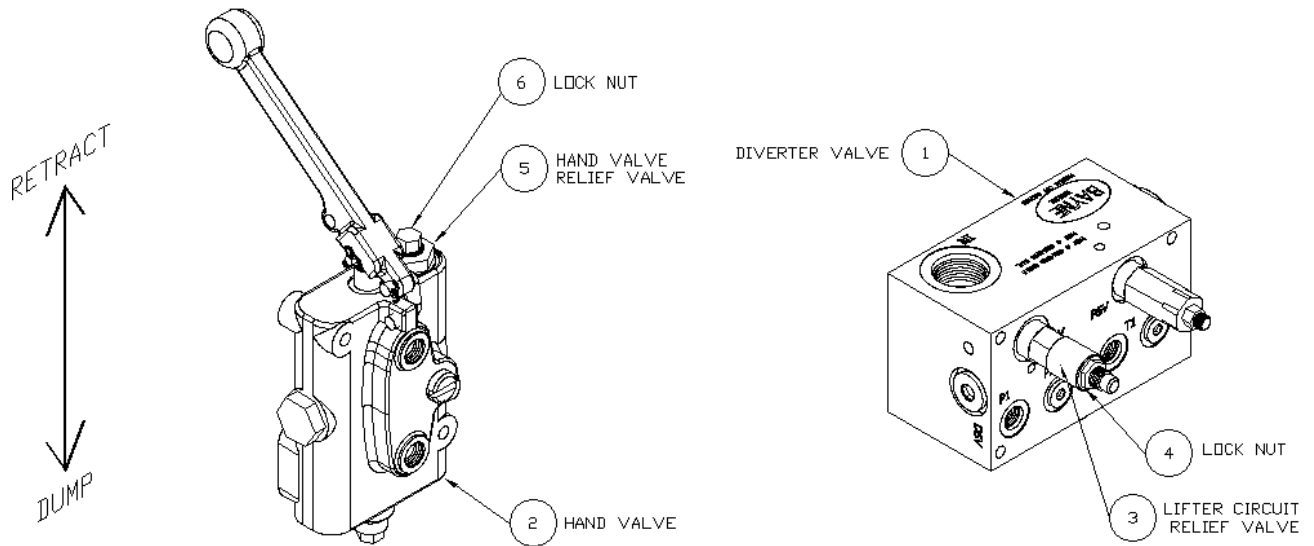
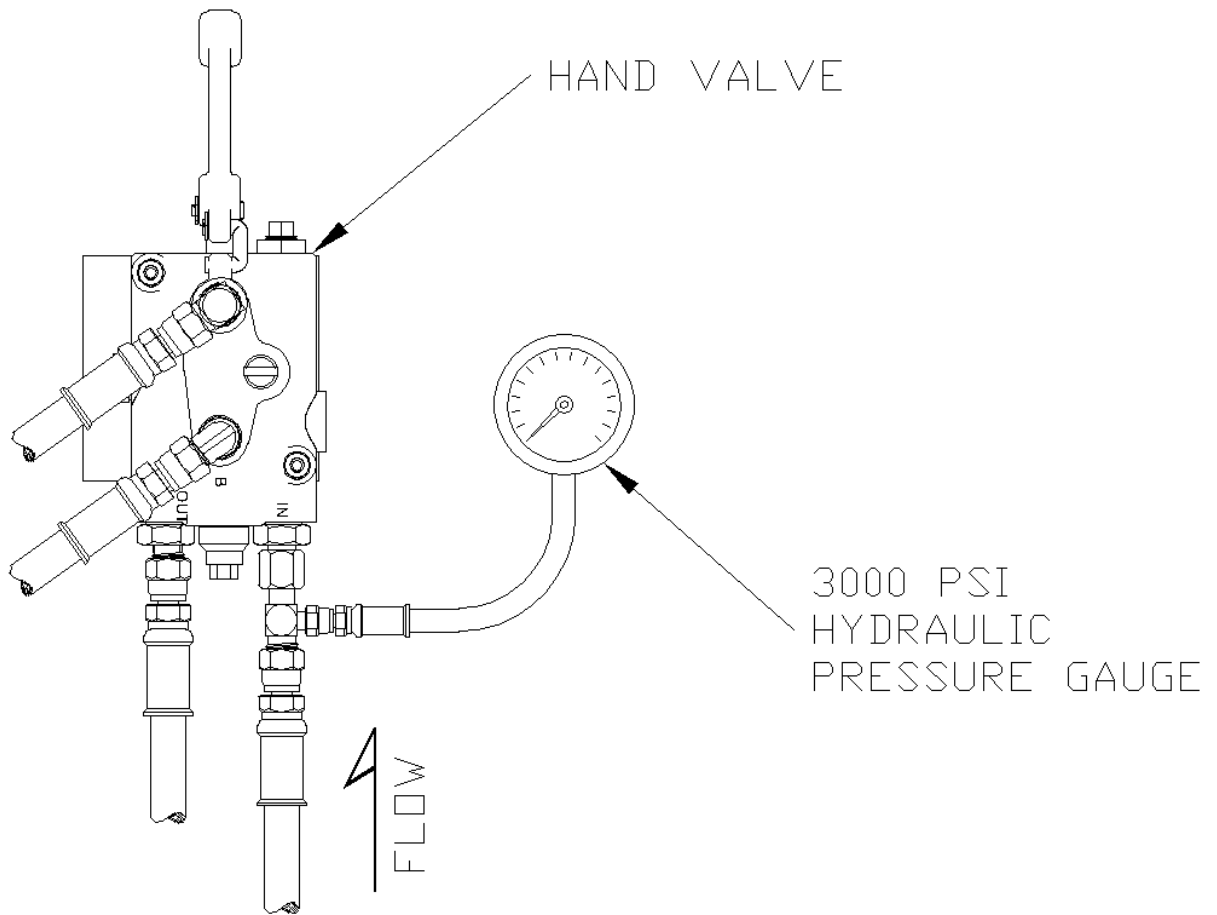

figure I-3
figure I-4
The diverter valve (1) (figure I-3) supplies each cart lifter hydraulic system with approximately 2 GPM of oil flow. This diverter valve is equipped with a lifter circuit relief valve (3) set at 2500 psi, to prevent the diverter valve from shutting down if a blockage occurs in the lifter circuit. There is also a relief valve (5) set at 1800 psi in each hand valve (2) to protect the lifters from excessive pressure. These relief valves are preset from the factory to operate properly on most trucks with a system pressure between 2300 and 2500 psi without any adjustment. However, if any adjustment is necessary, follow these instructions.
2. Remove the cap nuts (6) (figure I-3) from the hand valve relief valves (5) and turn the adjustment screws clockwise until they bottom out.
3. Loosen the lock nut (4) (figure I-3) on the lifter circuit relief valve (3) and turn the adjustment screw clockwise until it bottoms out.
5. Operate the handles on each hand valve (2) (*figure I-3*) back and forth a few times to bleed all air from the lifter hydraulic system.
7. Install a 3000 psi hydraulic pressure gauge with the necessary adapter in the hydraulic line connected to the "IN" port of one hand valve as shown in figure I-4.
- a) Have an assistant hold the handle on the hand valve (2) (*figure I-3*) (*with pressure gauge installed at the "IN" port*) in the "retract" position to show pressure on the gauge.
- b) Turn the pressure relief adjusting screw on the lifter circuit relief valve (3) counter-clockwise until the pressure reading on the gauge is either 100 psi less than the truck system pressure or 2300 psi, which ever is the lowest.
- a) Hold the handle on the hand valve (2) (*figure I-3*) (*with pressure gauge installed at the "IN" port*) in the "retract" position to show pressure on the gauge.
- b) Turn the pressure relief adjusting screw on the hand valve relief valve (5) counter-clockwise until the pressure reading on the gauge is either 200 psi less than truck system pressure or 1800 psi, whichever is the lowest.
- f) Install the hydraulic pressure gauge in the hydraulic line connected to the "IN" port of the other hand valve as shown in figure I-4, start the truck's engine, engage the hydraulic system, and repeat step 10.
13. Reinstall the cap nuts (6) (*figure I-3*) on the hand valve relief valves (5) to secure the correct pressure setting.
14. Tighten the lock nut (4) (*figure I-3*) on the lifter circuit relief valve (3) to secure the correct pressure setting.